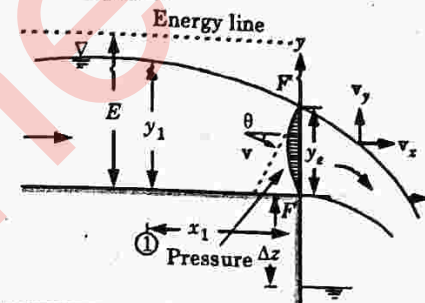

Fig. 3.23.1. Definition sketch of the end depth.
3. A typical free overfall is schematically illustrated in Fig. 3.23.1. The flow in the nappe emerging out of the overfall is obviously affected by gravity.
6. Also, at the brink, the pressure should necessarily be atmospheric at points F and F' . This causes the pressure distribution at section FF' to depart from the hydrostatic-pressure distribution and assume a pattern as shown in Fig. 3.23.1.
9. The critical depth y_c based on hydrostatic pressure distribution will occur upstream of the brink. In Fig. 3.23.1, section 1 can be taken as the critical section with $y_1 = y_c$. Then $x_1 = x_c$. In supercritical flow, y_1 will be equal to the normal depth, $y_1 = y_0$.